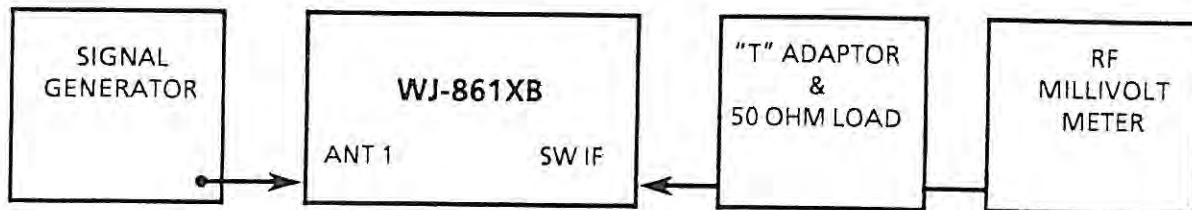

Figure H-5. NRT Alignment, Equipment Connection
1. Connect the test equipment as illustrated in **Figure H-5**.